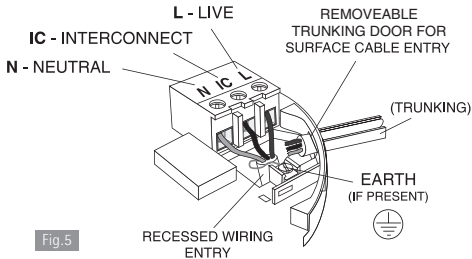

Fig.5
IC: Interconnect - see figures 5 and 6 and further information in Section 2.7.
4. If the mains wires are recessed, bring the wires through the rear hole in the mounting plate as shown in Figure 5.
- position the mounting plate so the cable trunking is as shown in Figure 5.